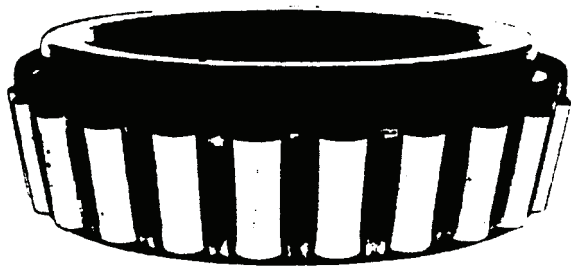

Figure 44.
- (3) Bright rubbing marks on the dark phosphate surfaces of the bearing cage. Refer to Figure 44.